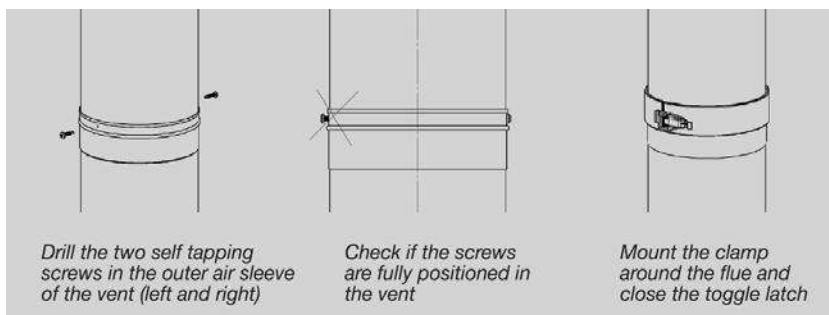

Figure 4.6 Securing
10. The outer vents must be secured with the 2 provided self-tapping screws. See figure 4.6. Use a low torque setting to drill the screws into the vent system.